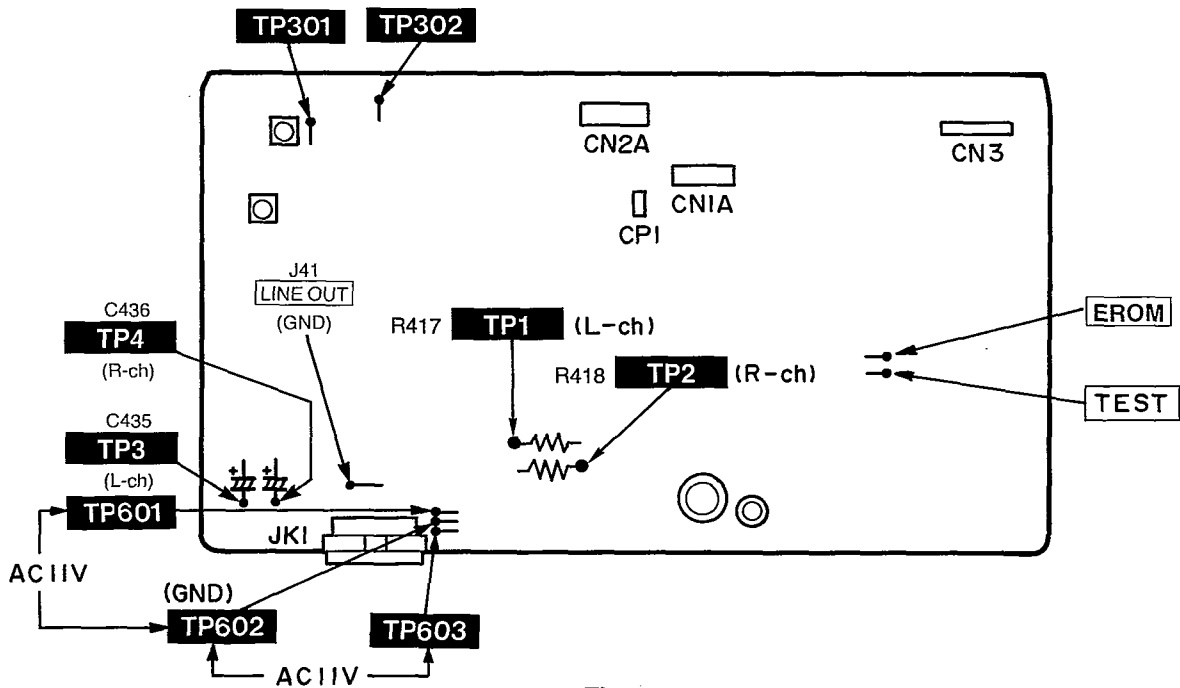

Fig. 1
Procedure 1→3→4→6 →10	 <p>1. Turn the gear in the direction of arrow ①, and open the cassette holder.</p> <p>2. Remove the cassette holder from the rib in the direction of arrow ②.</p> <p>3. Open the cassette holder so that the rib of the cassette holder is located to the position as shown in Fig.1, and then pull out it in the direction of arrow ③.</p>
1. Connect an AF oscillator to the line inputs, TP1 (L channel) and TP2 (R channel) (see Fig. 1).
2. Connect an AC voltmeter to the line outputs, TP3 (L channel) and TP4 (R channel) (see Fig. 1).